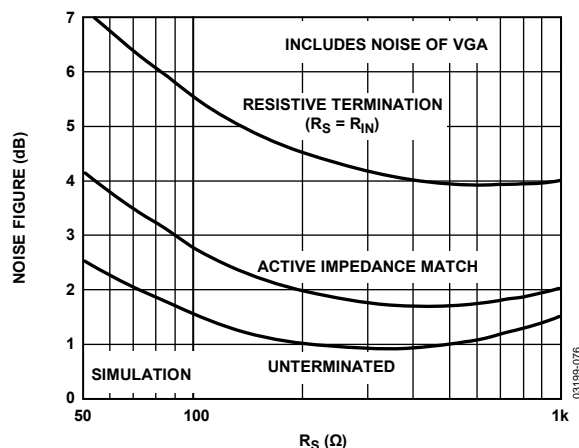

Figure 37. Noise Figure vs. R_S for Resistive, Active Matched and Untermated Inputs, Gain = 1 V
The primary purpose of input impedance matching is to improve the system transient response. With resistive termination, the input noise increases due to the thermal noise of the matching resistor and the increased contribution of the LNA's input voltage noise generator. With active impedance matching, however, the contributions of both are smaller than they would be for resistive termination by a factor of $1/(1 + \text{LNA Gain})$. Figure 37 shows the relative noise figure (NF) performance. In this graph, the input impedance was swept with R_S to preserve the match at each point. The noise figures for a source impedance of 50 Ω are 7.1 dB, 4.1 dB, and 2.5 dB for the resistive, active, and unterminated configurations, respectively. The noise figures for 200 Ω are 4.6 dB, 2.0 dB, and 1.0 dB, respectively.